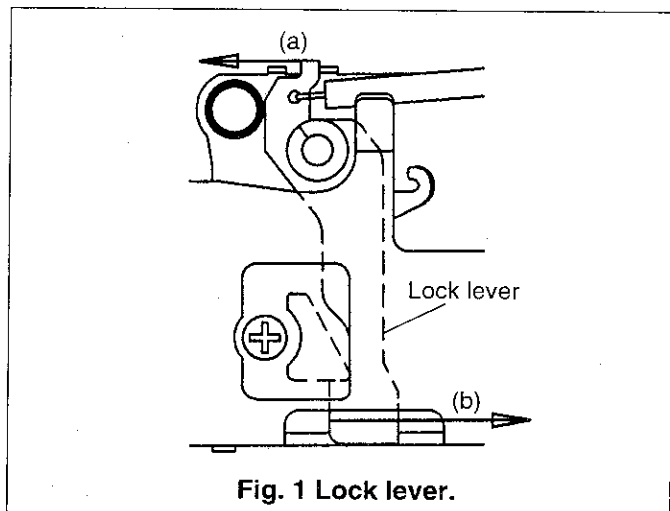

Fig. 1 Lock lever.
- (1) Remove the cassette control cover.
- (2) Press the EJECT lever of the VCR frame to raise the cassette control. Or, in STANDBY mode, push the lock lever in the direction of the arrow to raise the cassette control. (See Fig. 1; direction (a) or direction (b).) (When pushing in direction (a), lift the cassette control lightly by hand to release it.)